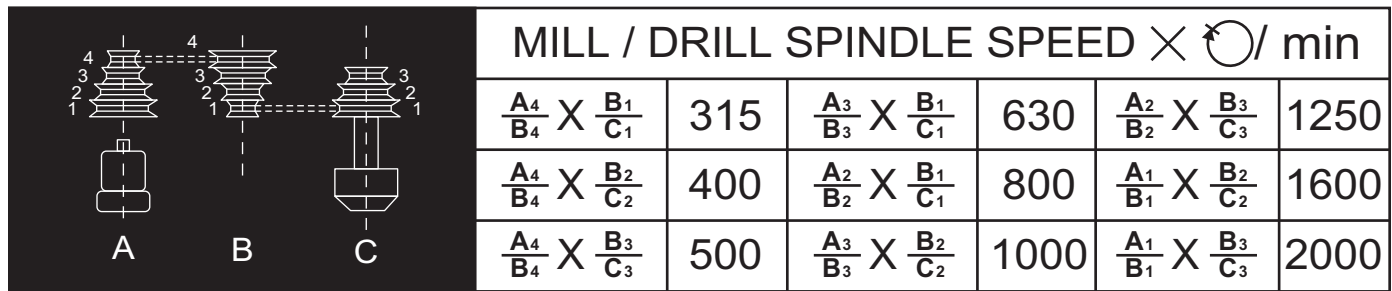

Figure 21. Mill spindle speed chart.
3. Refer to the mill spindle speed chart in **Figure 21** above to find the nearest speed setting to your calculated speed.